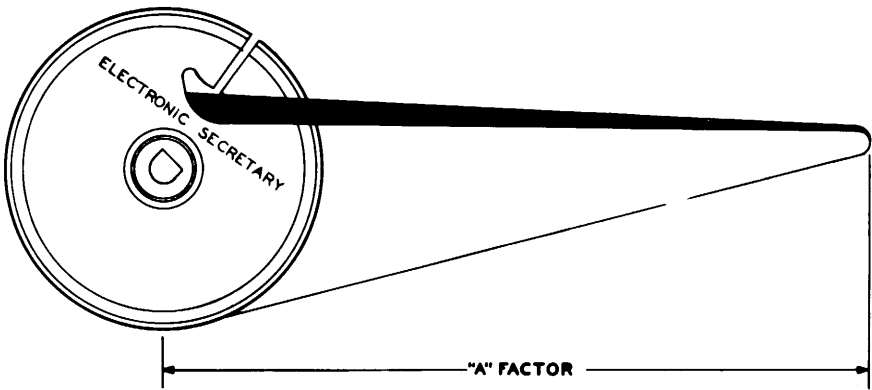

Figure 4. "A" Factor.
5.04 When in the mechanisms, the tapes should move freely around the pillars and heads. Assure that the tapes do not bind in the cartridges and that there is sufficient tape slack ("A" factor) consistent with the running time (Figure 4).